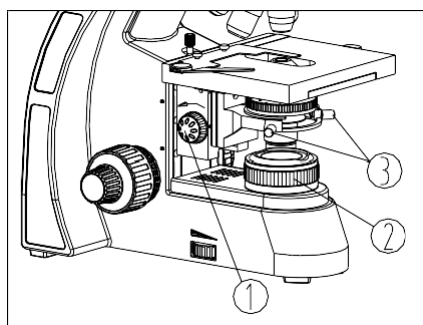
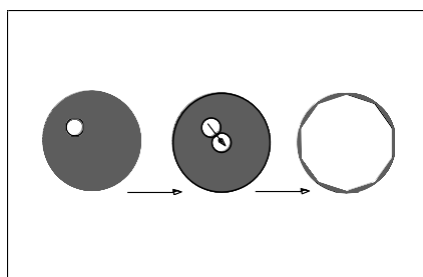

Fig. 19
Fig. 20
(1) Rotate the condenser up-down knob① to raise it to the highest position (see Fig. 19).
(2) Rotate the objective 10X to the light path and focus the specimen.
(3) Rotate the field diaphragm adjustment ring② to put the field diaphragm to the smallest position. At the moment, the image of field diaphragm will be observed in the eyepiece.
(4) Adjust the center adjustment screw③ and put the image to the center of the field of view (see Fig.20).
(5) Open the field diaphragm gradually. If the image is in the center all the time, it shows the condenser has been centered correctly.
(6) In fact, you can enlarge the field diaphragm a bit and make the image circumscribed to the field of view.